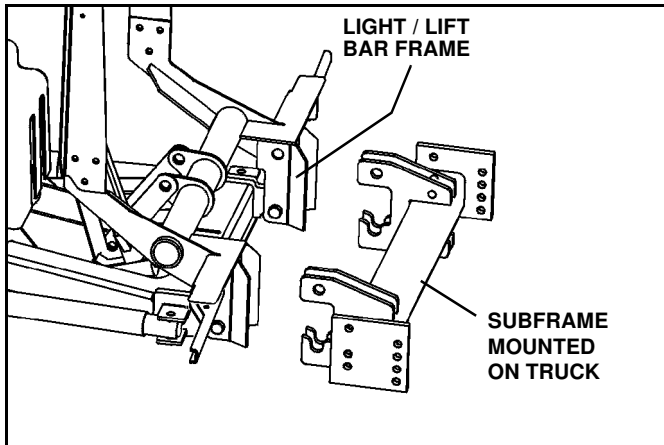

Figure 1-19
1. Drive truck into plow. Align light/lift bar frame outside of subframe lugs. Pins should fit inside slots cut into subframe lugs. (See Figure 1-19).